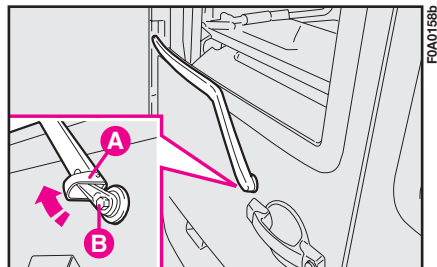
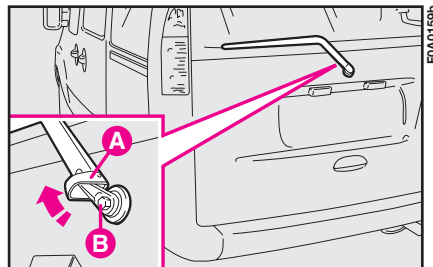

fig. 24
fig. 25
- 1) Lift the cover **A**-fig. 24 and fig. 25 and dismantle the arm from the vehicle by unscrewing the nut **B** which holds it onto the knuckle.